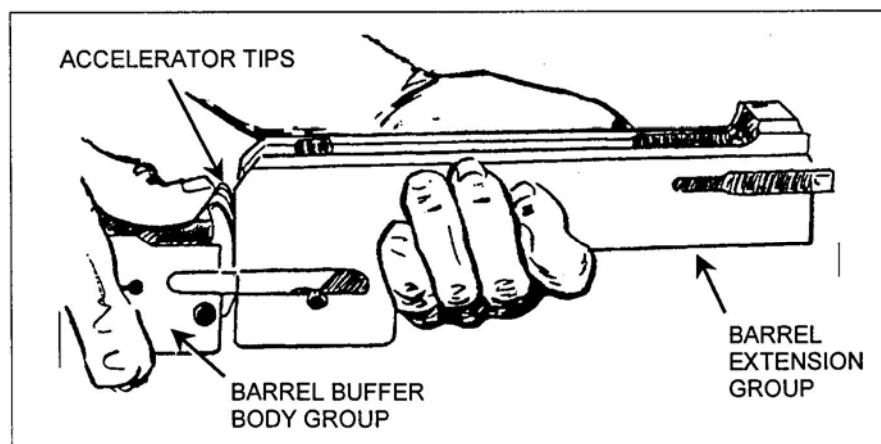

Figure 17. Separation of the barrel buffer and barrel extension assemblies.
- (2) Maintain pressure on the buffer accelerator with your thumb and remove the barrel buffer and barrel extension assemblies from the receiver. Separate them by pushing forward on the accelerator tips (Figure 17).